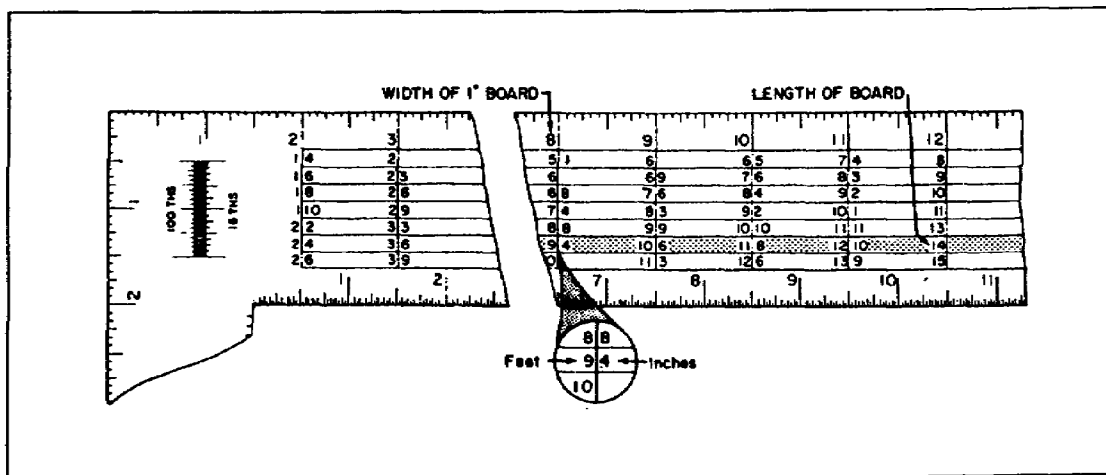

Figure 1-22. Essex board measure table
c. Tabular Method. The standard essex board measure table (Figure 1-22) is a quick aid in computing BF. It is located on the back of the blade of the framing square. In using the board measure table, make all computations on the basis of 1-inch thickness. The inch markings along the outer edge of the blade represent the width of a board 1 inch thick. The third dimension (length) is provided in the vertical column of figures under the 12-inch mark.